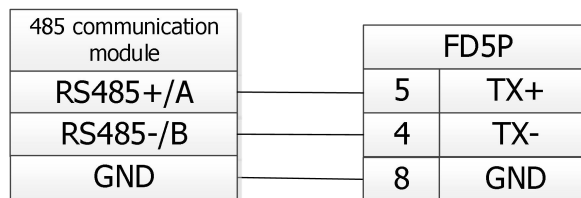

Figure 10-2 RS485 signal wiring
The RS485 port of the FD5P series servo drive supports the MODBUS communication function, which can be used to modify the internal parameters of the servo and monitor the servo status. The communication line of the master station is connected to X4A (IN), and X14B (OUT) is connected to the next slave device. Wiring is shown in Figure 10-2.